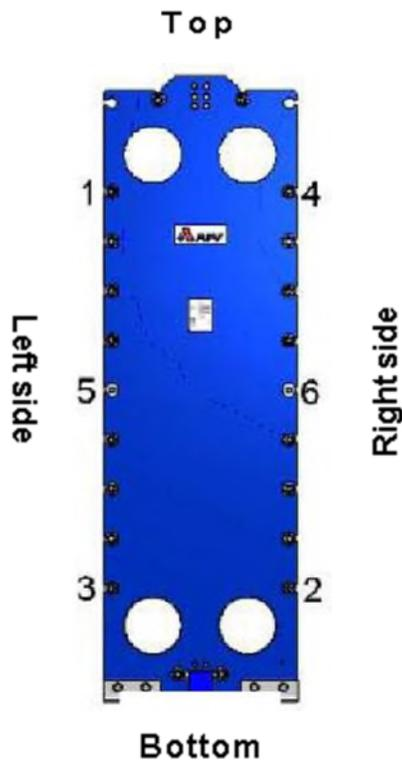

Figure 41: Tie Bar Numbering
- 1) Confirm the plate installation (section 9.4) and tie bar installation (section 9.5) steps have been completed. Install tie bars 1 through 4 when the distance between tie bars 1 and 3 is less than 1200mm (4 ft.) or install tie bars 1 through 6 when the distance between tie bars 1 and 3 exceeds 1200mm (4 ft.) (**Figure 41**).